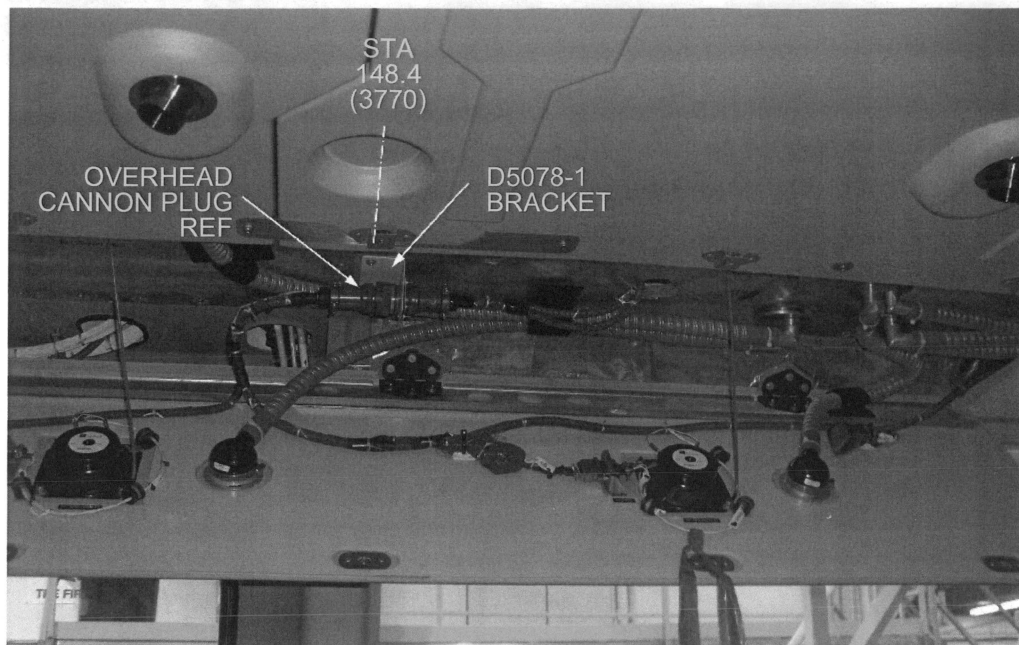

Figure 1. - LH Side Overhead Panel
- 2.1 Position the D5078-1 Bracket on the LH side of the cabin overhead by temporarily removing 2x MS27039-1 screws as shown in Figure 1. Transfer 2x $\varnothing 0.204$ " (#6 drill) holes from airframe to the D5078-1 Bracket. Deburr and touch-up holes with MIL-P-85582 or MIL-P-23377 primer.
- 2.2 Install D5078-1 Bracket using existing 2x MS27039-1 screws and washers as shown in Figure 1.